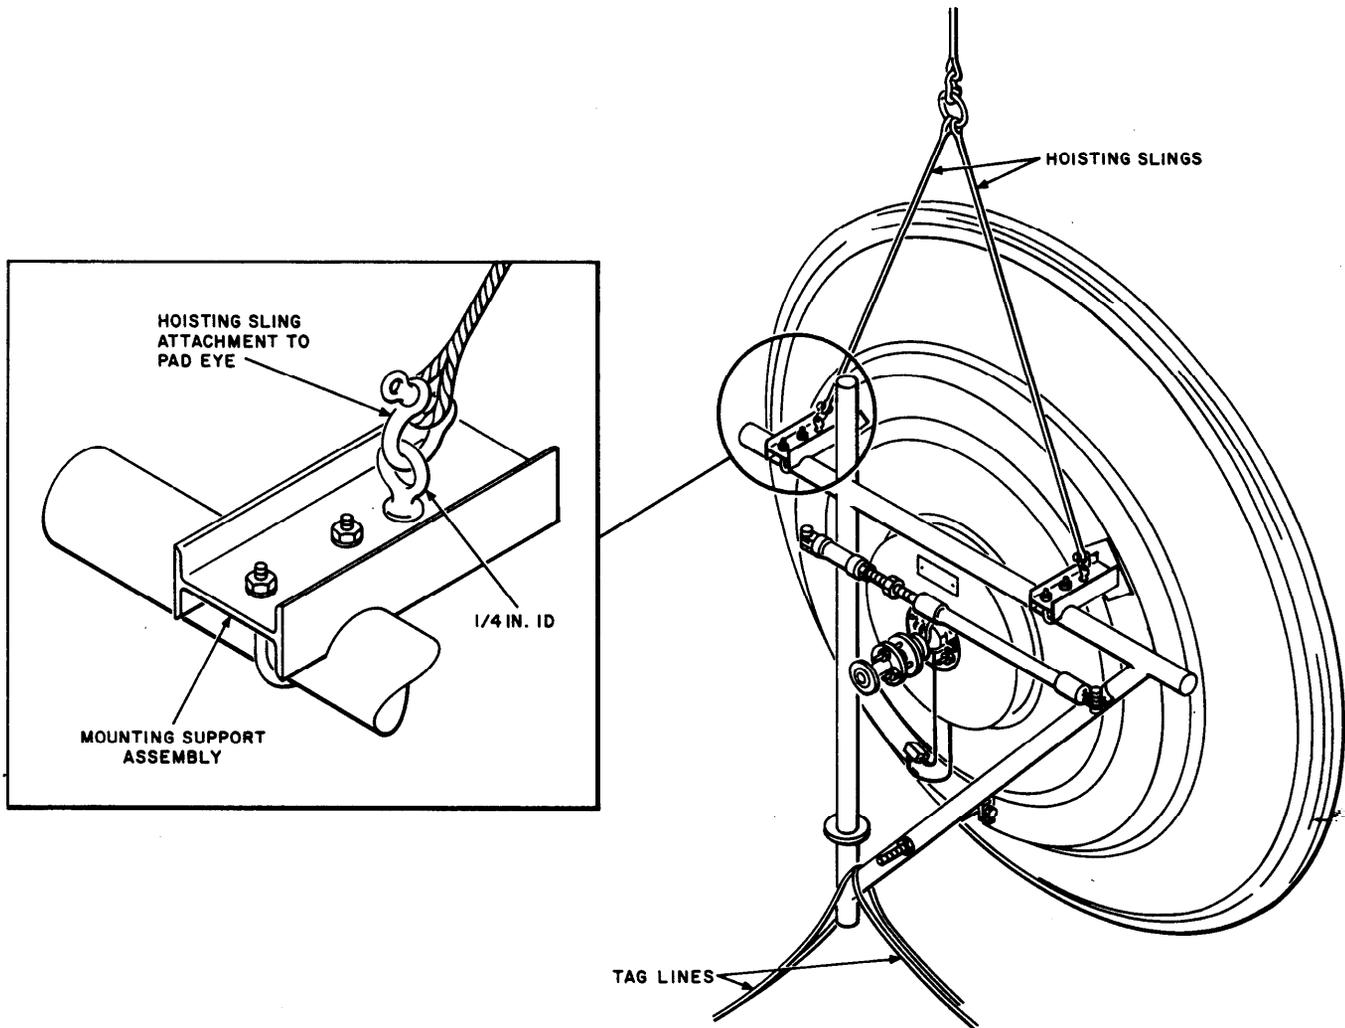

Fig. 8—Hoisting Sling and Tag Line Attachments to Antenna
5.02 Connect the lifting sling to the two pad eyes supplied with the antenna (Fig. 8). The pad eyes are installed in the mounting support assembly.
5.04 Connect two tag lines to the mounting frame at the junction of the vertical and diagonal member as illustrated in Fig. 8. The tag lines should be used to prevent the antenna from striking the support structure or guy wires during the hoisting operation. As the antenna is raised, it may be necessary for the men on the tag lines to move further from the support structure base in order to guide the antenna properly.